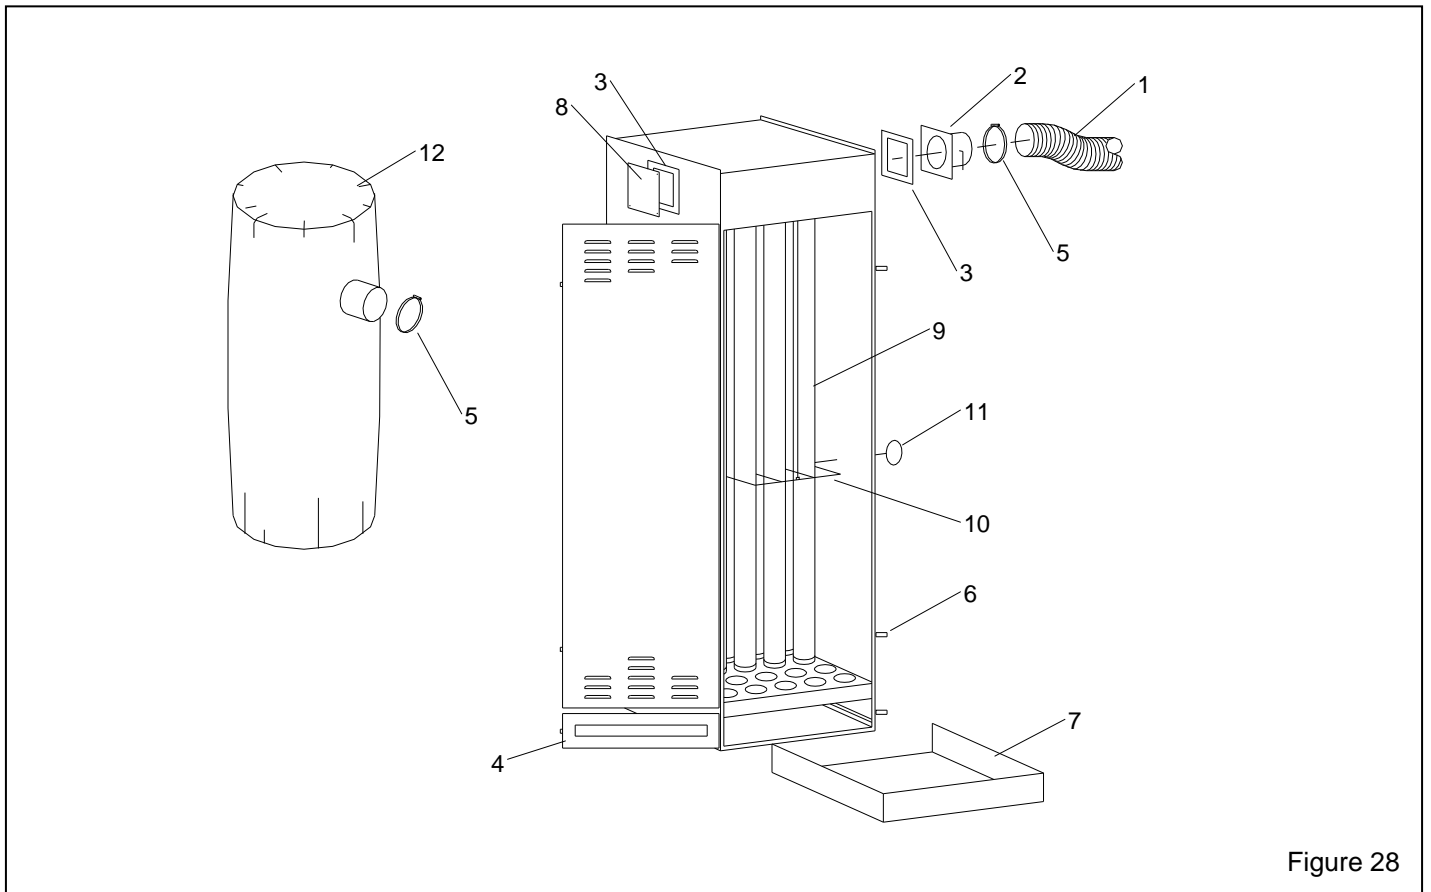

Figure 28
9.10 Dry Filter Dust Collector and Dust Bags, Figure 28